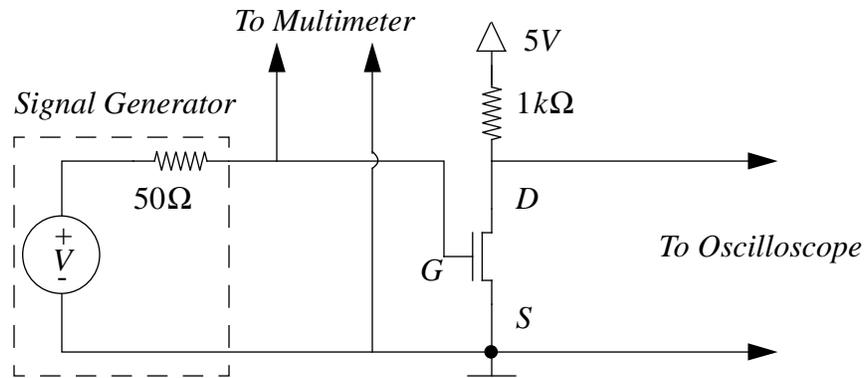

Figure 5: circuit to measure V_T .
- (1-4) Construct the circuit shown in Figure 5, which is designed to measure the threshold voltage of the MOSFET; the MOSFET the pin assignments are given in the attached data sheet. Use the multi-meter to measure v_{GS} and the oscilloscope to measure v_{DS} , and set the signal generator to provide a constant output. With v_{GS} at 0 V, v_{DS} should be at 5 V. Gradually increase v_{GS} until v_{DS} starts to fall. The value of v_{GS} at which this occurs is V_T .
- (1-5) Beginning with the circuit shown in Figure 5, remove the 1 k Ω resistor and the oscilloscope from the MOSFET drain. With v_{GS} at 5 V, measure R_{DS} with the multi-meter. This resistance is R_{DS-ON} for $v_{GS} = 5$ V; note that the multi-meter supplies a very small voltage when used as an ohmmeter.